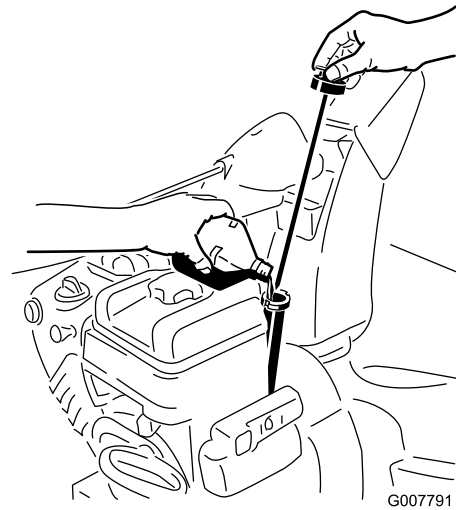

Figure 19
- Remove the dipstick and **slowly** pour oil into the oil fill tube to raise the oil level to the Full mark on the dipstick. **Do not overfill.** (Figure 19).